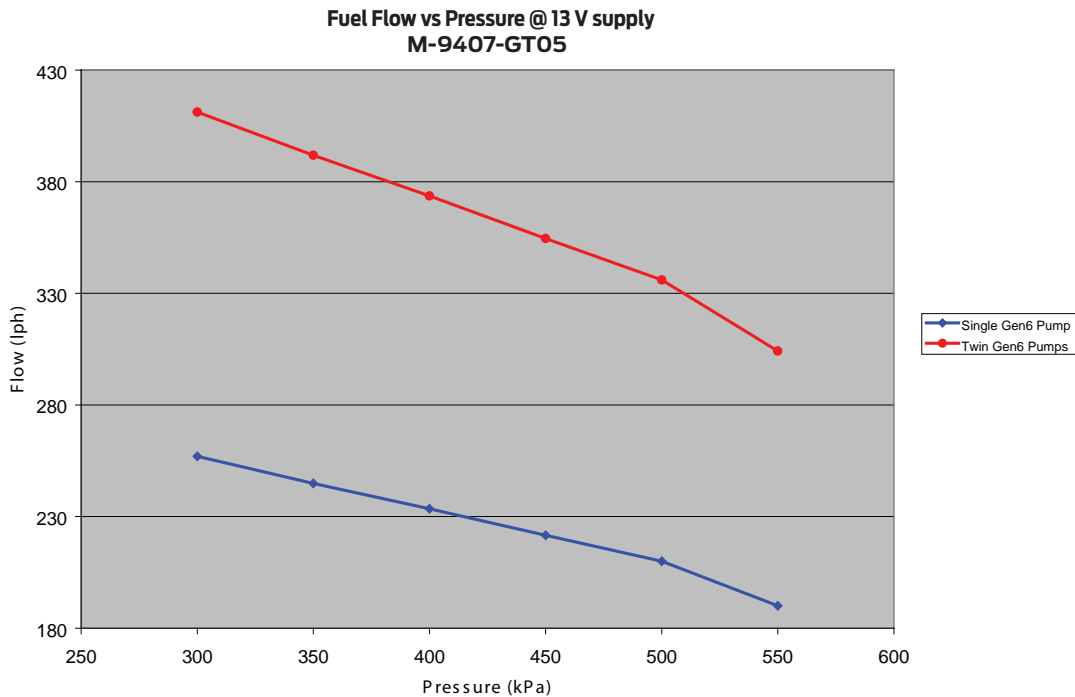

Figure 1
**Very Important Note:** For any type of forced-induction engine, the above maximum power levels will be reduced because as the boost pressure increases, the fuel pressure required from the pump also increases, creating an additional load to the fuel pump, which results in a decreased fuel flow rate at the higher pressure. In order to do proper fuel pump sizing for these applications, a fuel pump map is required, which shows flow rate versus delivery pressure for a given voltage. For example, a 255 L/hr pump at 40 psi may only supply 200 L/hr at 58 psi (40 psi plus 18 lbs of boost). Additionally, if you use a fuel supply line that is not large enough, this can result in decreased fuel flow due to the pressure drop. For example, 255 L/hr at the pump may only result in 220 L/hr at the fuel rail because as the required pressure increases (due to the pressure loss from the supply line restriction), the maximum flow rate of the pump decreases. Figure 1 shows an example fuel pump map for a pump assembly at a supply voltage of 13 V.